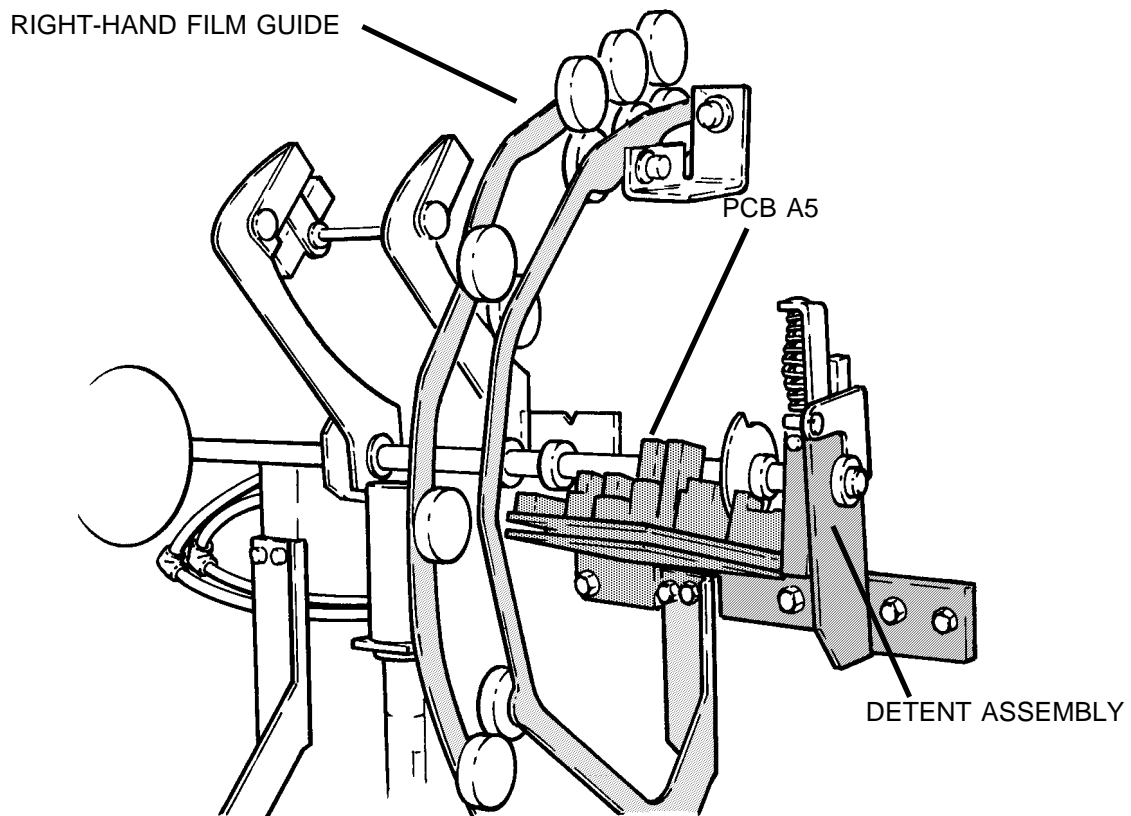

figure 2
4. Take out BOARD A5 together with the MOUNTING BRACKET. See figure 2.
5. Take out the DETENT ASSEMBLY. See figure 2.